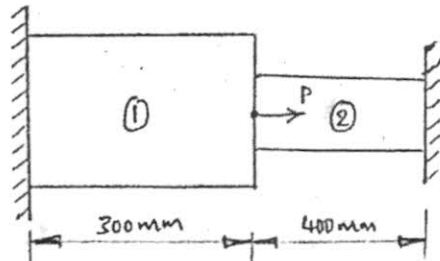

Figure Q5 (b)
b) Consider the bar shown in Figure Q5 (b). An axial load $P=200 \times 10^3 \text{ N}$ is applied as shown in figure using penalty approach. Determine the following: